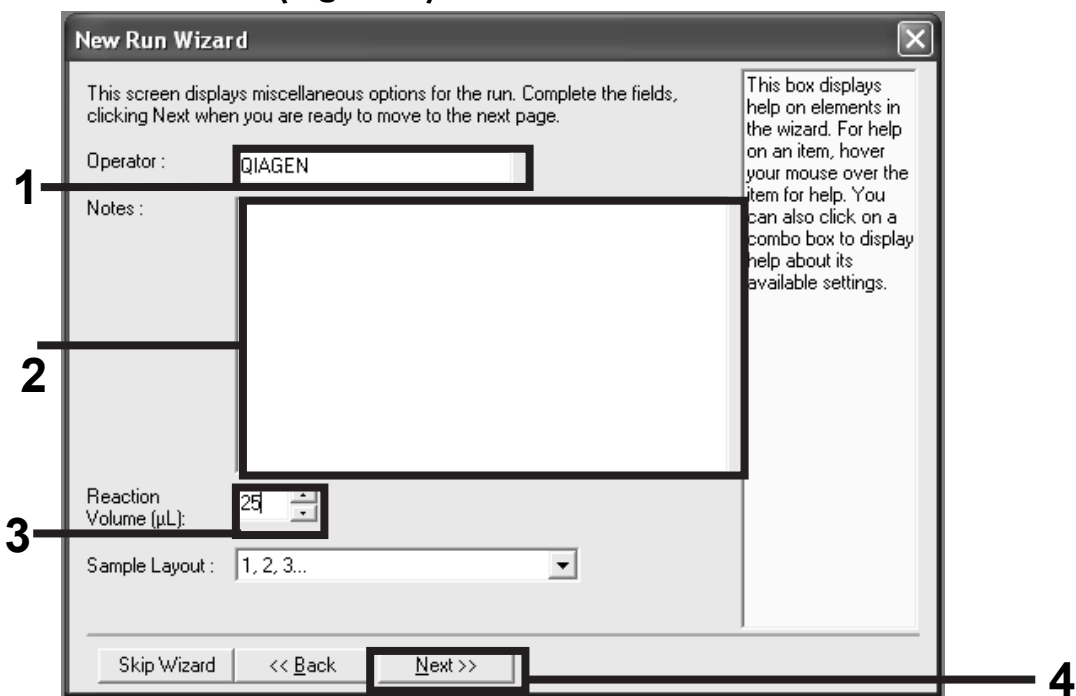

Figure 2. Setting the general assay parameters.
5. Enter the name of the operator. Add any notes and enter the reaction volume as **25**. Ensure that “**Sample Layout**” reads “**1,2,3...**”. Click “**Next**” (Figure 2).